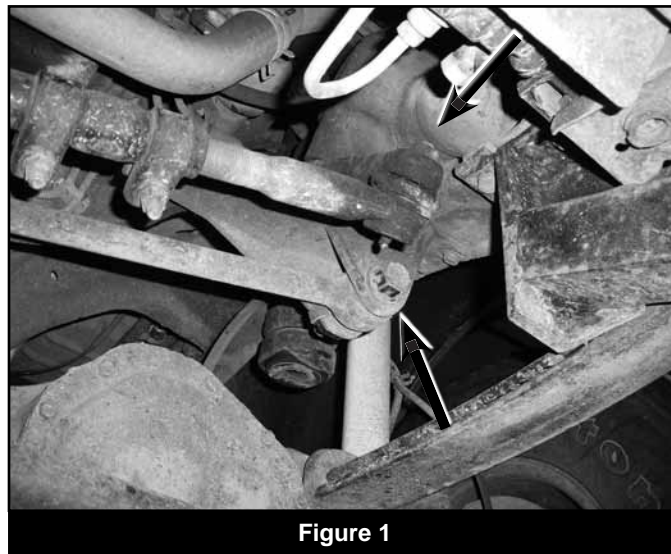

Figure 1
2. Disconnect the front track bar from the driver's side frame bracket (Fig 1). Save hardware.
6. Remove the cotter pin and castellated nut from the steering drag link at the pitman arm (Fig 1). Thread the nut back on a couple turns. Strike the pitman arm near the drag link end to dislodge the taper. Remove the nut and drag link from the pitman arm. Save nut.